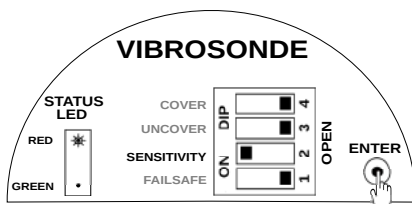

Figure 8: Setting Sensitivity Value
3. Press ENTER and keep it pressed as shown in Figure 8. The STATUS RED LED starts blinking. Count the number of blinks. After setting the value release the ENTER key.